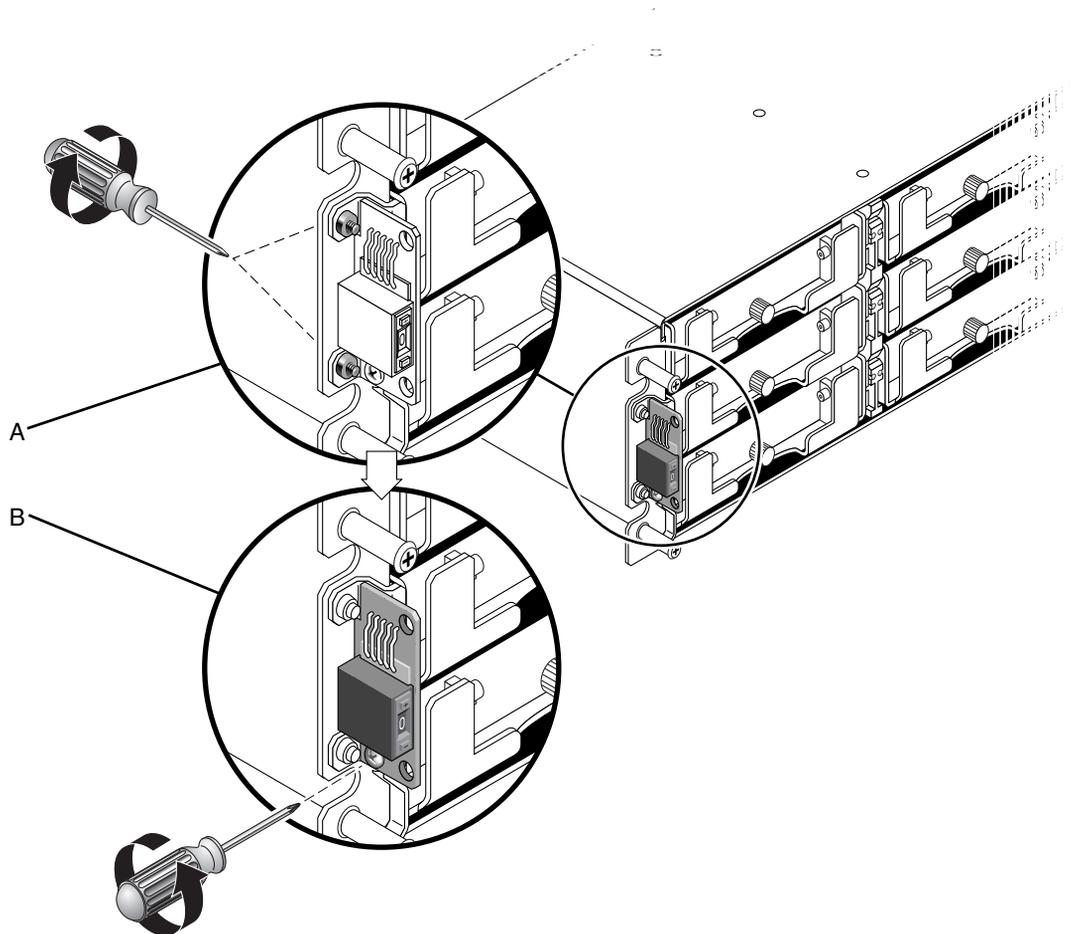

FIGURE 9-10 Detaching the ID Switch Module From the Chassis
2. Remove the one panhead screw (B in FIGURE 9-10) attaching the switch module to the chassis.
Note – If the lower bracket screw obstructs the ID switch module screw (B in FIGURE 9-10), the chassis will have to be removed from the rack (if it is a rackmounted array) or the case (if it is a tabletop array) to gain access to the bracket screws (A in FIGURE 9-10) and remove them. Two #4-40 x 1/4-inch flathead screws are provided to replace the bracket screws, should they become damaged when removed. For details on removing the cover from a tabletop array, see Section 2.4.2, “Converting a Tabletop Array to a Rack-Ready Array” on page 2-19.
5. If the flathead screws (A in FIGURE 9-10) were removed, reattach these screws through the chassis flange into the bracket.